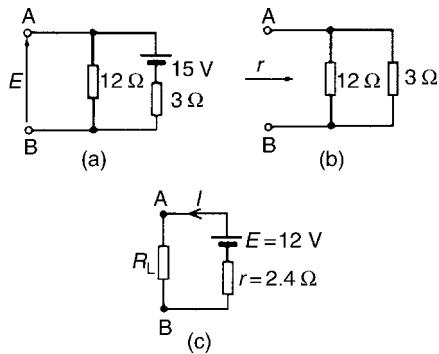

Figure 13.86
- (i) Resistance  $R_L$  is removed from the circuit as shown in Fig. 13.86(a)
- (iii) Removing the source of e.m.f. gives the circuit of Fig. 13.86(b), from which, resistance,
- (iv) The equivalent Thévenin's circuit supplying terminals AB is shown in Fig. 13.86(c), from which,